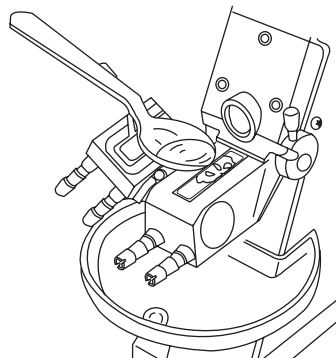

Fig. 8-1
- ① Turn the prism open/shut handle to open the secondary prism, and apply sample to measure onto the main prism surface with a spoon, etc. (Fig. 8-1).